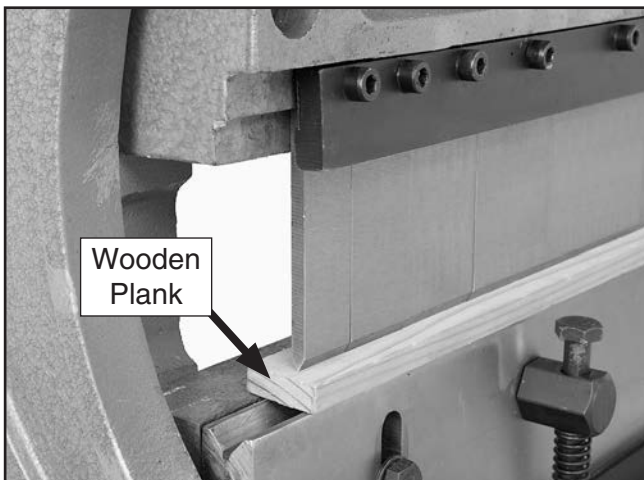

Figure 13. Seating fingers.
11. Place a flat wooden plank that is the full length of the brake on the finger receiver (Figure 13).